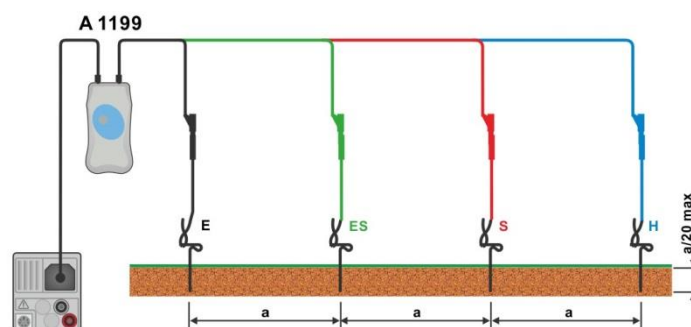

Figure 7.64: Specific earth resistance measurement
- › Connect test leads to earth probes, see **Figure 7.64**.